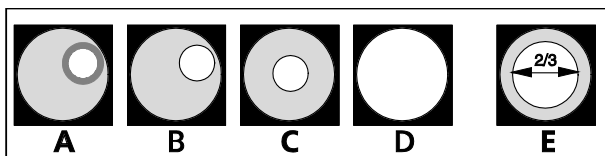
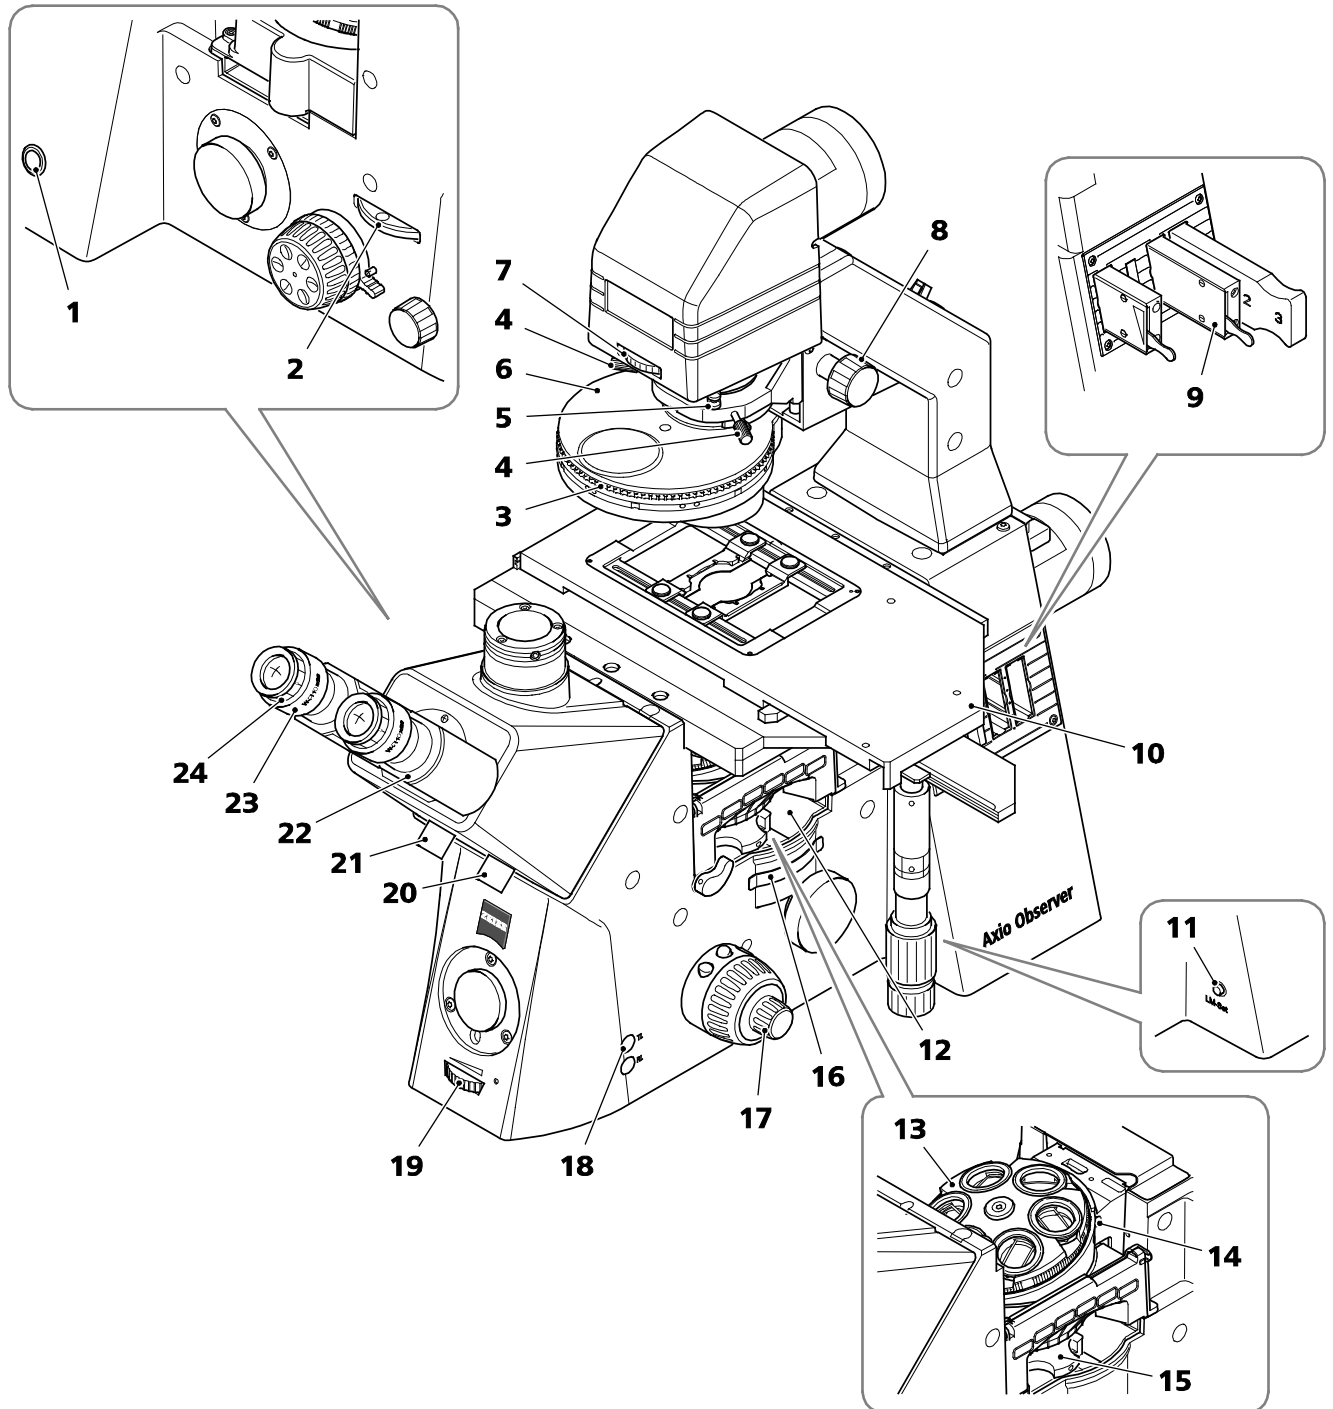

Fig. 82 Diaphragm settings in transmitted light brightfield acc. to KÖHLER
Fig. 83 Axio Observer 5
- Prepare the microscope and switch it on in accordance with section 4 (Fig. 83/1).
- Select the objective with the lowest magnification (e.g. objective 10x - yellow ring) on the nosepiece (Fig. 83/13); ensure that it clicks into position correctly. Set factor 1x on the selector wheel (Fig. 83/16) of the Optovar turret.
- Open the luminous-field diaphragm completely by turning the luminous-field diaphragm control (Fig. 83/7) on the carrier for transmitted-light illumination to the left.
- Turn the condenser turret adjustment ring (Fig. 83/3) to move the condenser turret to the **H** position for brightfield (if H is not available, to the **DIC** position).
- If necessary remove the analyzer slider from the slot (Fig. 83/12) or move to the open position. Ensure that it clicks into position correctly.
- Turn the sideport selector wheel (Fig. 83/2) to the 100 % vis (visual) position.
- Set the beam splitting ratio to 100 % vis (Fig. 83/20) on the binocular (photo)tube. Remove the Bertrand lens from the optical path (where used). To do this, move the rotary/sliding button (Fig. 83/21) to the 100 % vis position.
- Swivel the 3-position filter changer (Fig. 83/5) out of the optical path.
- Place a high-contrast specimen on the microscope stage (Fig. 83/10).
- Match the eyepiece distance (interpupillary distance) to the user's individual interpupillary distance: For this purpose, pull apart or push together the binocular component (Fig. 83/22) of the tube.
- Set the ametropia correction zero point using the adjustment ring (Fig. 83/24) of the eyepieces (Fig. 83/23):
- Use the coarse / fine focus drive (Fig. 83/17) to focus on the selected detail of the specimen. If no light is visible in the eyepieces, check that light is being emitted from the housing of the halogen illuminator. If no light is being emitted, switch on the halogen illuminator by pressing the TL button (Fig. 83/18).
- Set the light intensity to a comfortable level by using the illumination control wheel (Fig. 83/19).
- Close the luminous-field diaphragm (Fig. 83/7) until it is visible in the field of view (not necessarily in focus) (Fig. 82/A).
- Bring the edge of the luminous-field diaphragm into focus (Fig. 82/B) by adjusting the height of the condenser (Fig. 83/8).
- Center (Fig. 82/C) the luminous-field diaphragm using the centering screws (Fig. 83/4) and open until the edge of the diaphragm just disappears from the field of view (Fig. 82/D).
- To set the aperture diaphragm, remove one eyepiece from the eyepiece tube and adjust the aperture diaphragm to approximately 2/3 the diameter of the exit pupil of the eyepiece (Fig. 82/E). The settings required for optimum contrast depend on the specimen.
Key to Fig. 83: